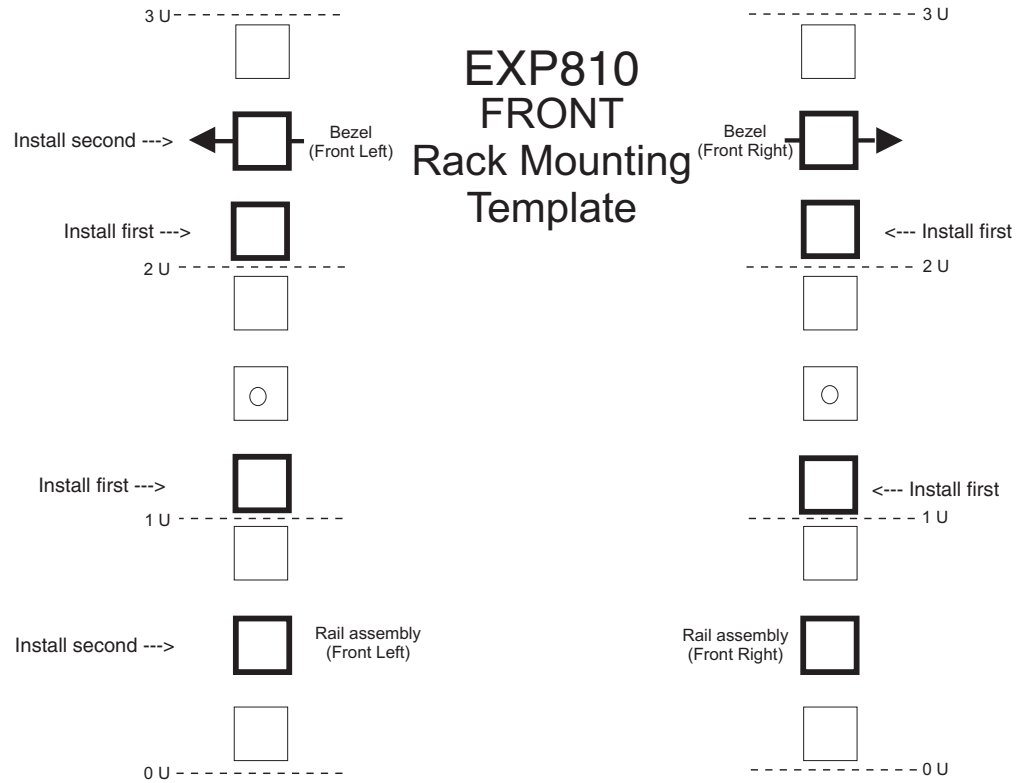
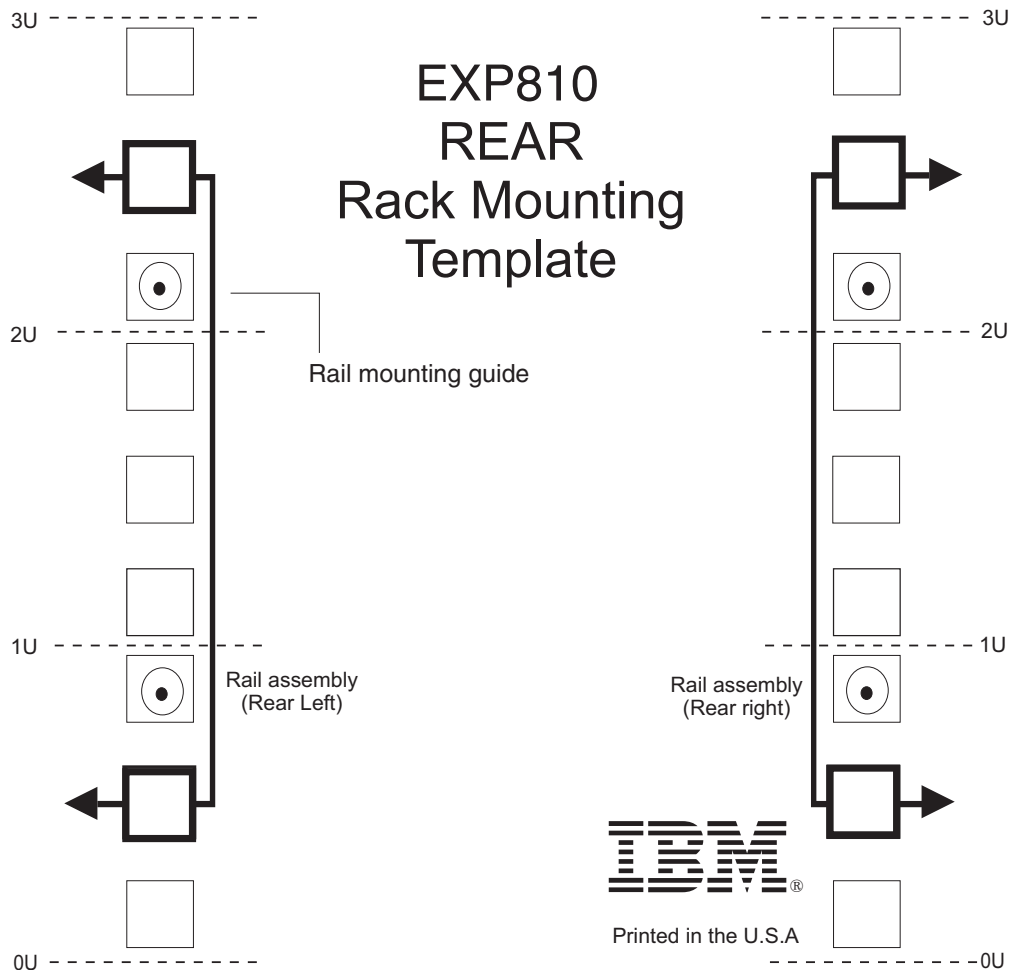

Figure 10. Front rack mounting template
Figure 11. Rear rack mounting template
Use the following templates (Figure 10 on page 23 and Figure 11 on page 24) to identify the proper locations for inserting M5 screws when mounting the support rails and EXP810 to a rack. The locations for the M5 screws are highlighted in the templates.
Attention: Use the rack mounting template provided in Figure 10 on page 23 and Figure 11 on page 24 to locate the proper rack mounting holes for installing the support rails into the rack.
- Hold the back of the rail against the inside of the rack-mounting flange. Make sure the rail mounting guide pins are in the correct holes. See Figure 11 on page 24 for illustration.
Note: Be sure to install the screws labeled *install first* in Figure 10 on page 23.